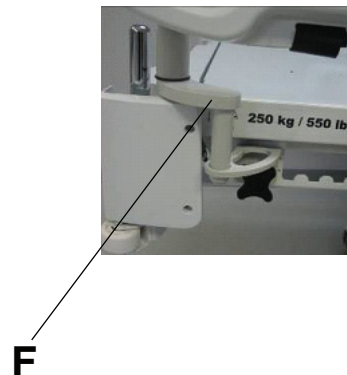

Figure 128: Attaching the tray support
4. Attach the tray support pole into the bracket (F) and into the socket at the head end or foot end of the product (Figure 128 on page 113).